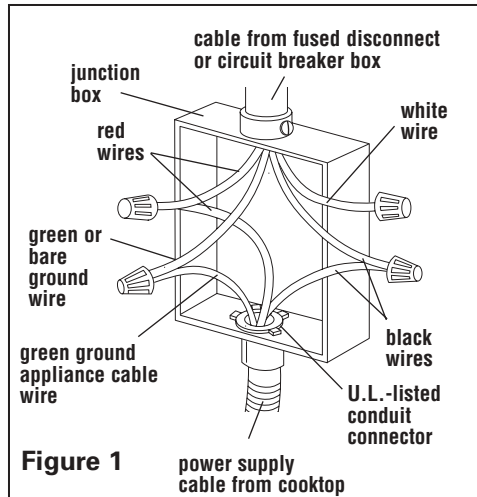

Figure 1
7. Connect the green ground power supply cable wire to the ground wire in junction box or other ground connector with twist-on connector. See Figure 1.